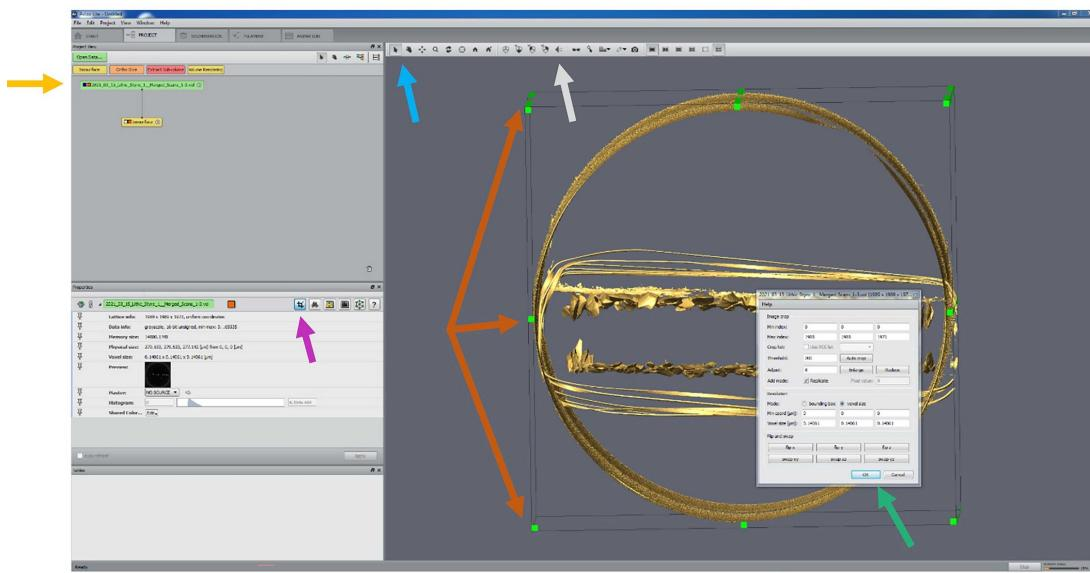
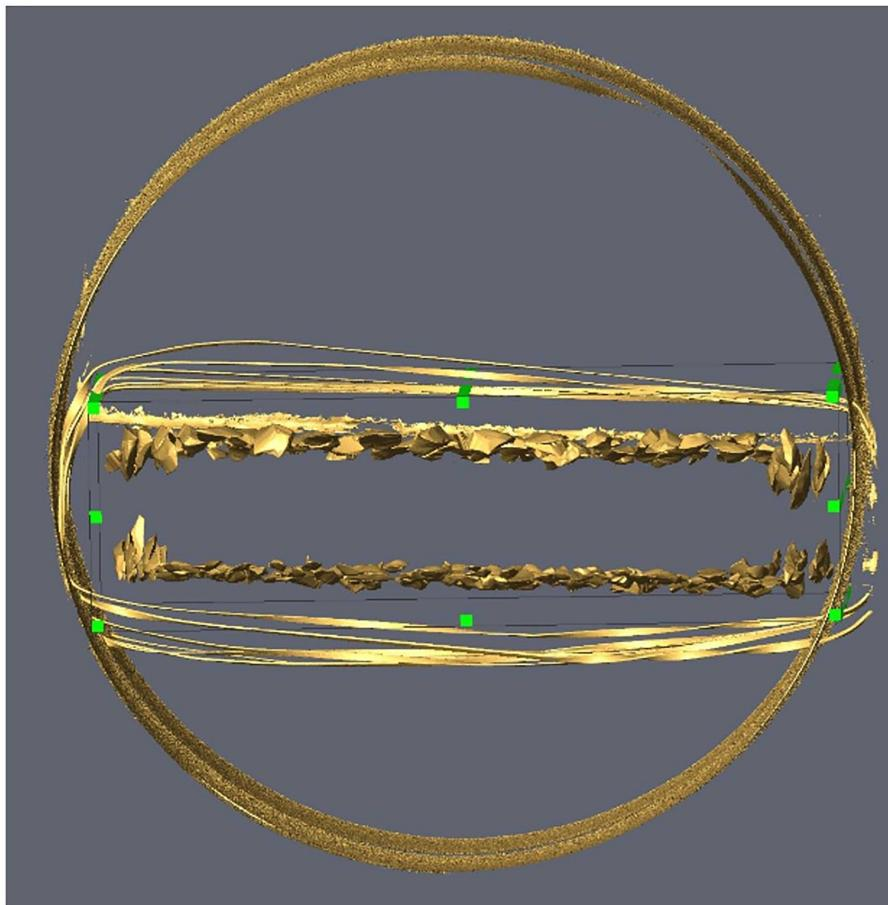

Fig. 15: Cropping process to remove outlying materials.
Fig. 16: Adjusted bounding box used to crop the outlying materials.
22.1 Select the ‘Eye’ sign in the top menu bar above the 3D viewing panel (grey arrow in Fig. 15) to switch to orthographic view (‘Eye’ sign with parallel sight lines).
- 22.2** Select the vol file label (yellow arrow in Fig. 15).
- 22.3** Rotate the 3D model into a proper position (e.g., as shown in Fig. 15) that allows for easier removal of the unnecessary outlying material.
- 22.4** Select the 'Cursor' sign in the menu bar above the 3D viewing panel (blue arrow in Fig. 15).
- 22.5** Select the first 'Tool' sign (Cropping tool) in the options bar (pink arrow in Fig. 15).
- 22.6** Use the left mouse button and cursor to narrow the bounding box (brown arrows in Fig. 15). If possible, leave only the lithic artefacts within the bounding box (Fig. 16). Any remaining
- 22.7** Apply changes to delete excluded materials with ‘Ok’ in cropping window (green arrow in Fig. 15).